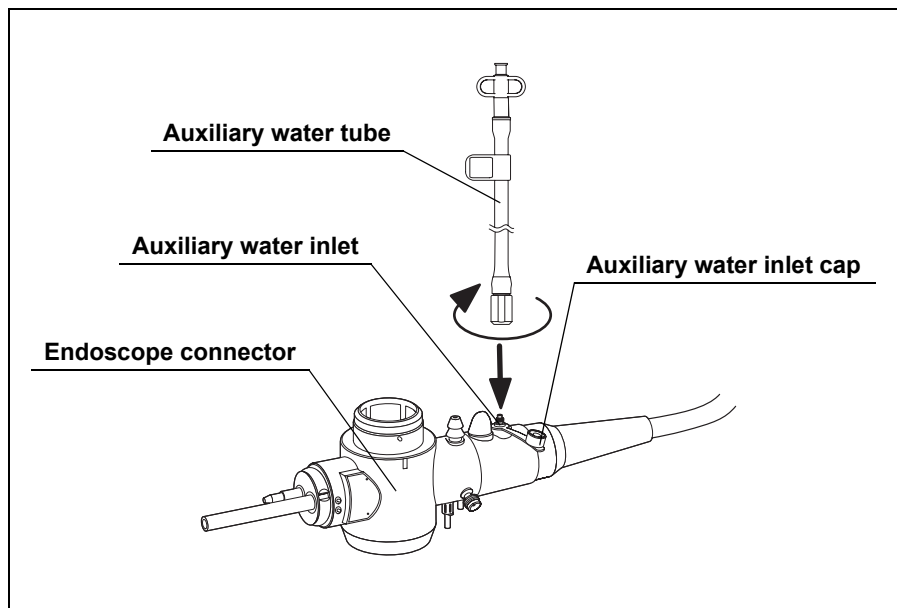

Figure 3.24
11. Open the auxiliary water inlet cap (see Figure 3.24 for GIF-H260Z only).
12. Connect the auxiliary water tube to the auxiliary water inlet on the endoscope connector and turn it clockwise until it stops (see Figure 3.24 for GIF-H260Z only).